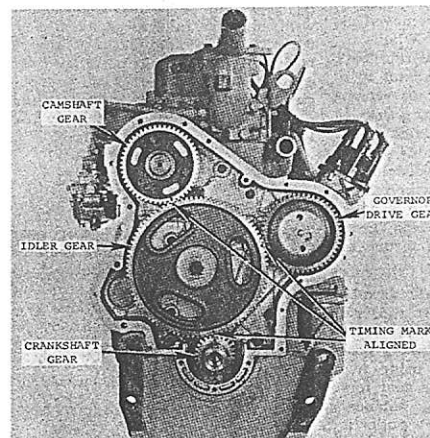

Fig. 66—Three cylinder engine with timing gear cover removed. Timing marks on idler gear will align only once in 18 crankshaft revolutions.
70. Refer to Figs. 66 and 67 for views of timing gear trains with cover removed. Before attempting to remove any of the timing gears, first remove fuel tank, rocker arm cover and rocker arms to avoid the possibility of damage to pistons or valve train if camshaft or crankshaft should either one be turned independently of the other.
75. TIMING THE GEARS. To install and time the gears, first install camshaft and crankshaft gears as outlined in the appropriate preceding paragraphs with timing marks to front. Turn the shafts until the appropriate timing marks point toward idler gear hub, then install idler gear with marks aligned as shown in Fig. 66 or 67. The timing marks on governor drive gear should be aligned for convenience when all gears are removed, but proper alignment is not necessary for ignition timing. Secure idler gear as outlined in paragraph 71.